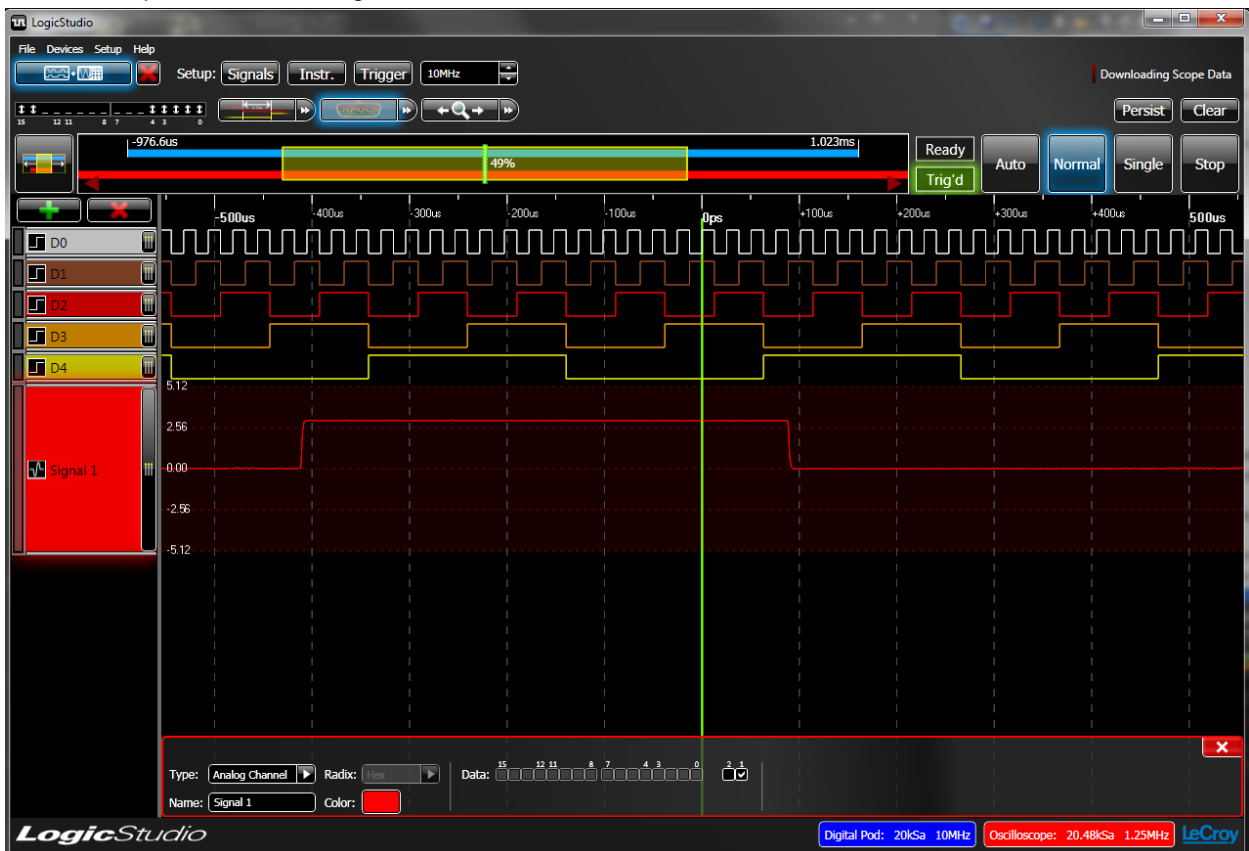

Figure 11 - Analog and Digital Capture
36. You should now observe both the digital lines as well as the analog signal from channel 1 of the oscilloscope as shown in Figure 11.